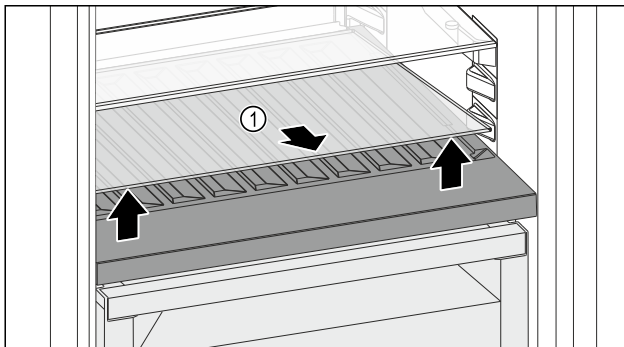

Fig. 123
- Lift the glass shelf Fig. 123 (1) at the front and remove.
- Store the glass shelf Fig. 123 (1) in a safe place outside the appliance.